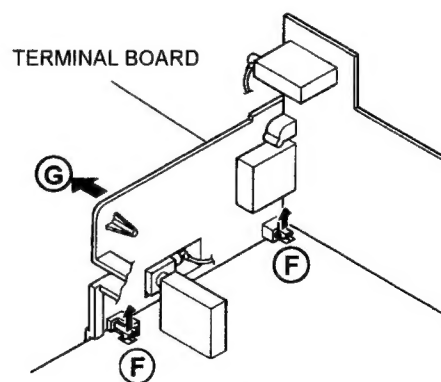
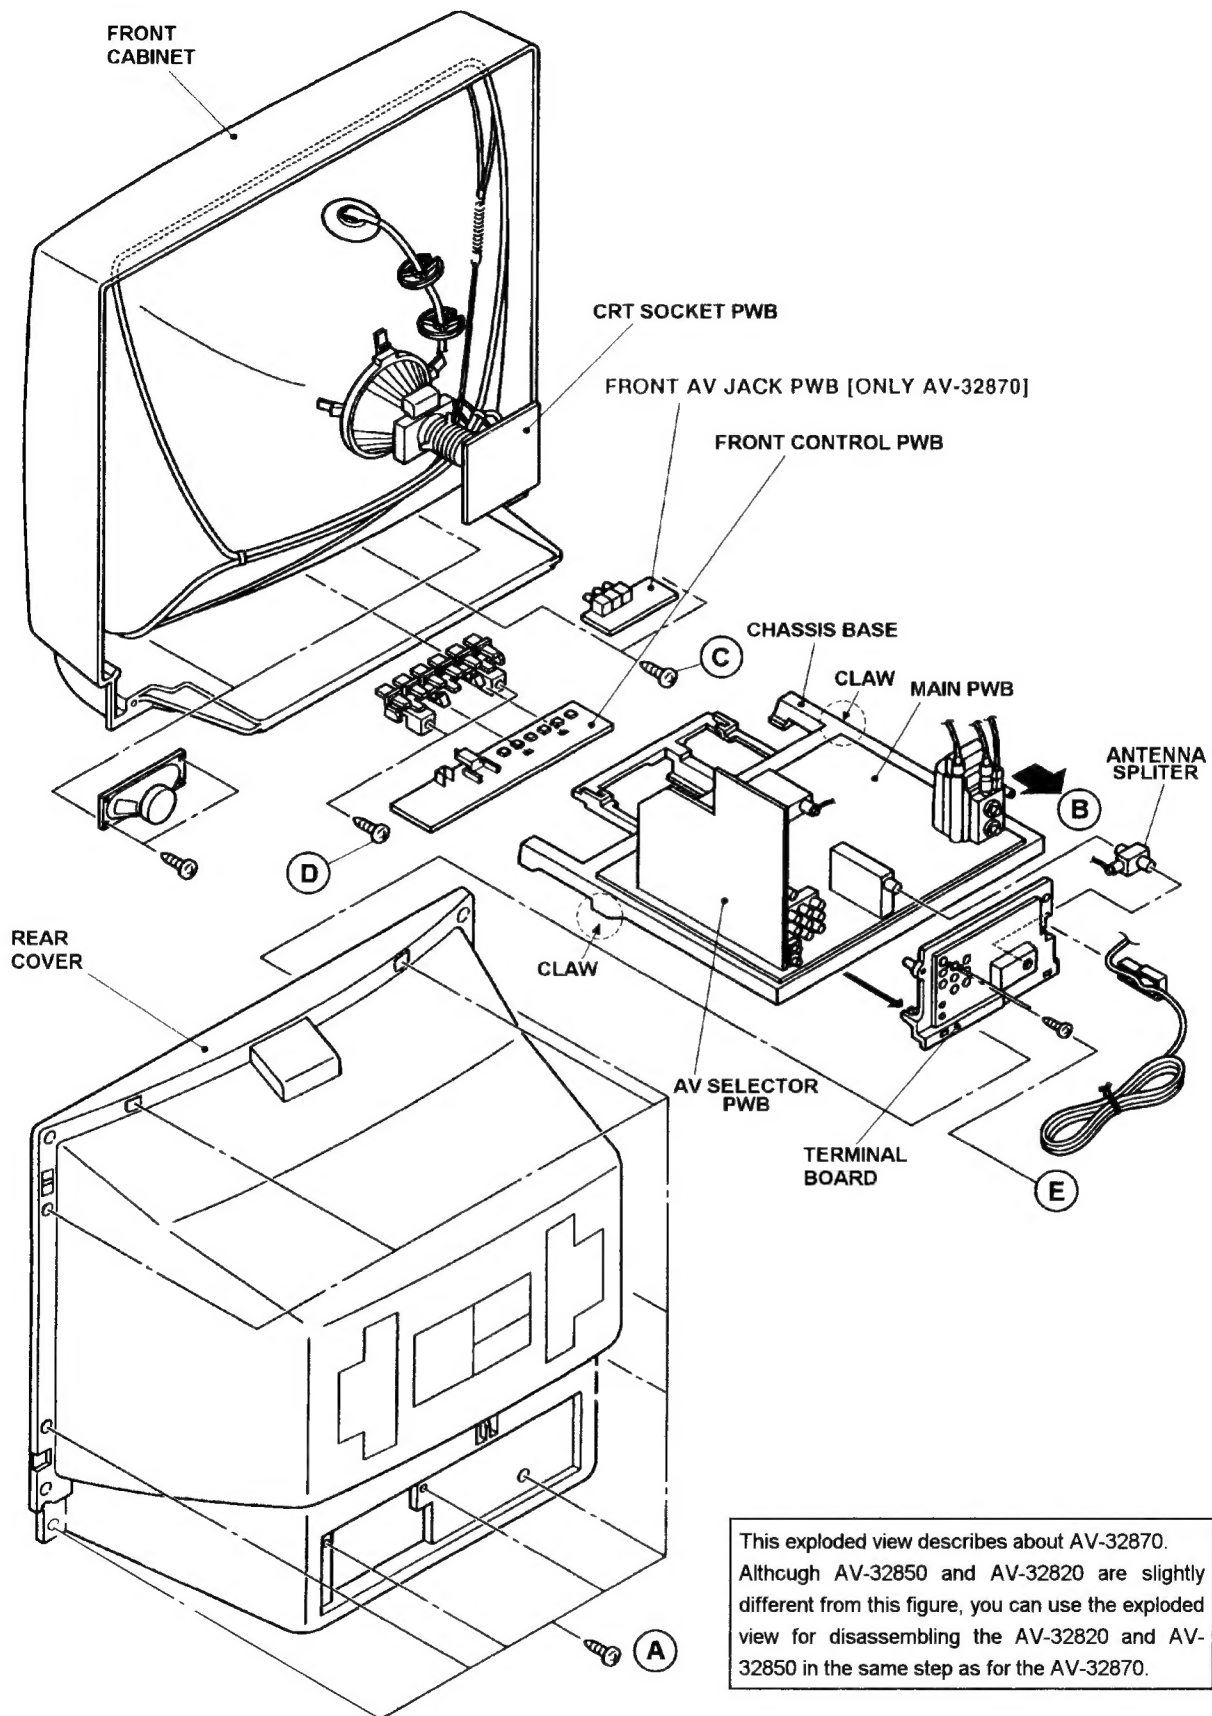

Fig. 1
Fig. 2
2. Remove the 11 screws marked **A** as shown in Fig.2.
2. Draw the chassis backward along the rail in the arrow direction marked **B** as shown in the Fig.2.
1. Remove the 2 screws marked **C** as shown in Fig.2.
1. Remove the 2 screws marked **D** as shown in Fig.2.
1. Remove the 2 screws marked **E** as shown in Fig.2.
2. After removing the claw marked **F** in the direction of arrow mark as shown in Fig.1.
3. When you pull out the AV TERMINAL BOARD in the direction of arrow marked **G** as shown in Fig.1, it can be removed.
(4) System constant check and setting <ol style="list-style-type: none"> <li>1) Simultaneously press the DISPLAY key and VIDEO STATUS key of the remote control unit.</li> <li>2) The SERVICE MENU screen of Fig.1 is displayed.</li> <li>3) While the SERVICE MENU is displayed, again simultaneously press the DISPLAY and VIDEO STATUS keys to display the Fig.2 SYSTEM CONSTANT screen.</li> <li>4) Refer to the SYSTEM CONSTANT table and check the setting items. Where these differ, select the setting item with the MENU UP / DOWN key and adjust the setting with the MENU LEFT / RIGHT keys. (The letters of the selected item are displayed in yellow.)</li> <li>5) After adjusting, release the MENU LEFT / RIGHT key to store the setting value.</li> <li>6) Press the EXIT key twice to return the normal screen.</li> </ol>	 <p>Fig.1</p>  <p>Fig.2</p>
(7) SERVICE MENU setting Verify what to set in the SERVICE MENU, and set whatever is necessary. (Fig.1) refer to the SERVICE ADJUSTMENT for setting.